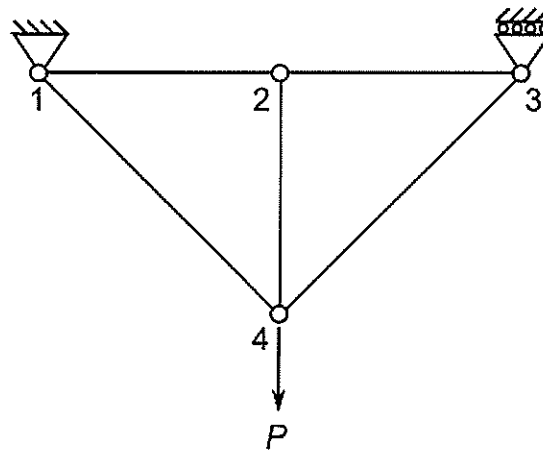

Figure 1b
- (b) In the pin-jointed framework shown in Figure 1b all members have constant cross section area A and Young's modulus E . All horizontal and vertical members have initial length L , and both diagonal members are oriented at 45° to the horizontal axis. A vertical downward load P is applied as shown to node 4. The bar forces resulting from this applied load are as shown in Table 1